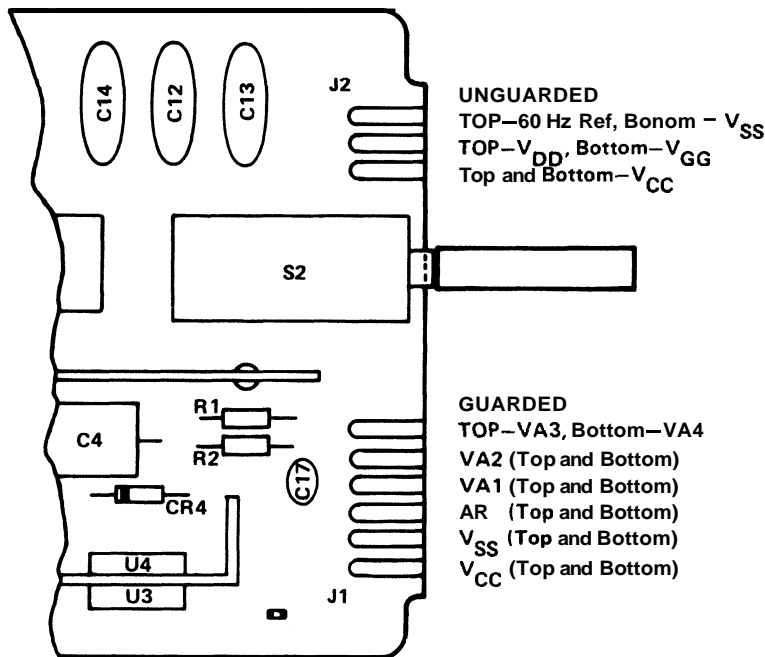

Figure 4-5. Power Supply Troubleshooting
68.	Repair power supply. Go to Figure 4-5.
96.	Repair power supply. Go to Figure 4-5.